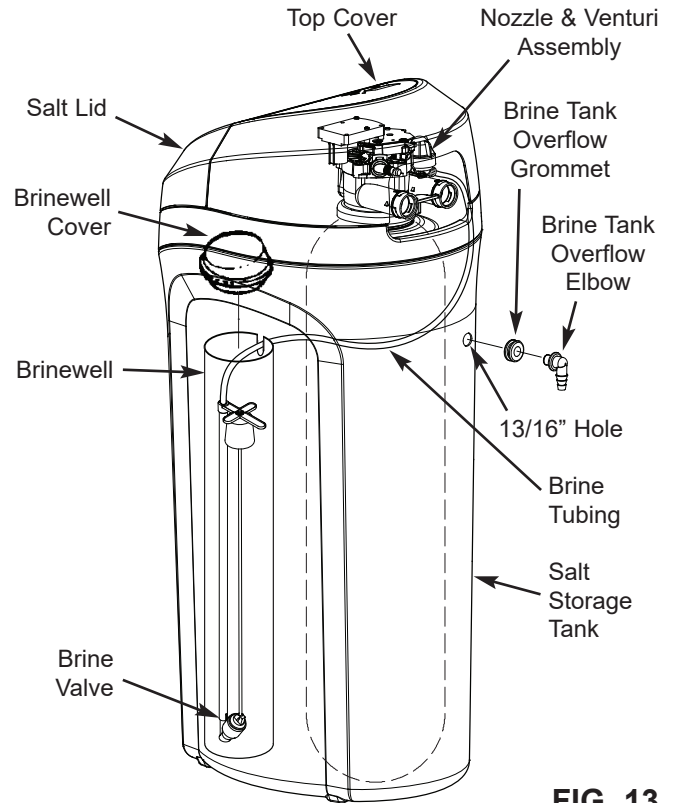

FIG. 13
1. EcoPure models are factory assembled. During installation, unsnap and remove the top cover, together with the salt lid, to expose the water treatment system valve assembly. Set them aside to prevent damage. Check the brinewell to be sure it is secured and vertical (See Figure 13).